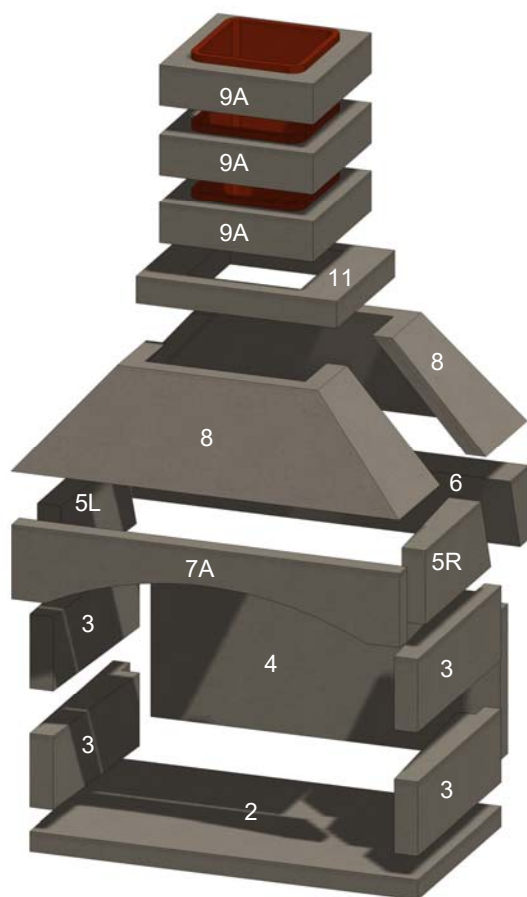
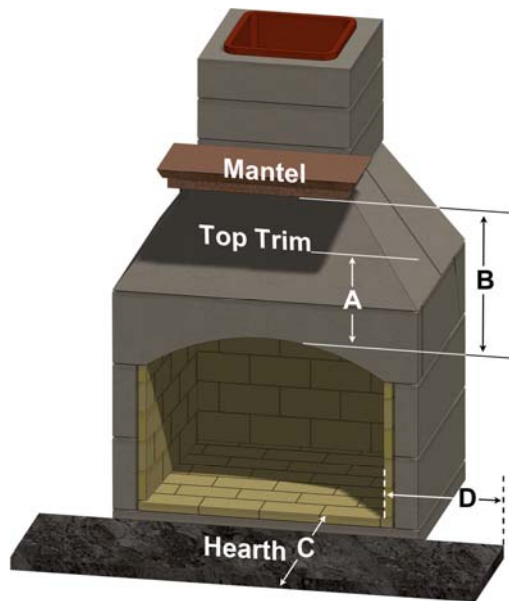

Figure 2. Fireplace Components
Figure 3. Clearances (Use with Table 2)
The fireplace is delivered as a kit with all components necessary to complete the installation. Component arrangements are shown in Figure 2. Components are listed in Table 1. Specifications and installation dimensions are shown in Table 2.
- A. Fireplace items shown in Figure 2 and listed in Table 1.
Table 2: Clearances (See Figure 3)
Note 5: Clay flue liners installed in flue section (item 9A, Figure 2) meet the specifications of ASTM Section C315-02.
Select a location in the home plans or outdoor living area where all the minimum distances, as shown in Table 2 and Figure 3 can be met. Proceed as follows. Numbers in () are item numbers from Table 1 and Figure 2. Ensure the base on which the fireplace is to be installed is a solid and level foundation and is composed of non-combustible material, such as concrete.
If the unit is to be installed indoors, do not use the Riser Legs (items 1 and 1A, shown in Figure 2 and Table 1). Instead, install the fireplace on a solid base, such as a cement pad or concrete blocks. Two courses of 8" tall block will be slightly shorter than the riser legs of the kit.
If this is your first Stone Age installation, it is suggested that you first assemble the components without mortar to familiarize yourself with how the components fit together. See Figure 2.
Ensure the Table 2 and Figure 3 clearances and distances are maintained. Ensure that the hearth and flooring under and in front of the hearth are made of fully non-combustible materials, not just a non-combustible floor covering.
If installing a mantel and side trim, particularly if it is wood or other combustible materials, ensure the minimum distances shown in Table 2 and Figure 3 are met.